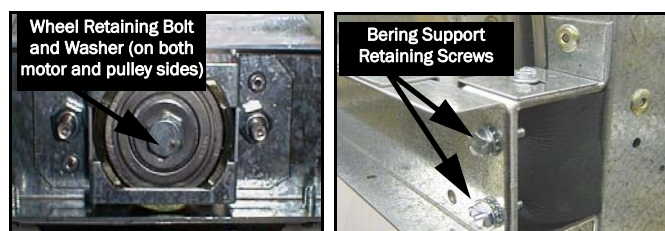

Figure 14 Remove bolt and washer, then beam retaining screws.
- 3 From the pulley side, remove the wheel retaining bolt and washer from the end of the shaft, Figure 14.
- 4 Remove the two bearing support retaining screws from each side of the beam, Figure 14.
- 7 From the motor side, remove the wheel retaining bolt and washer from the end of the shaft, Figure 14.